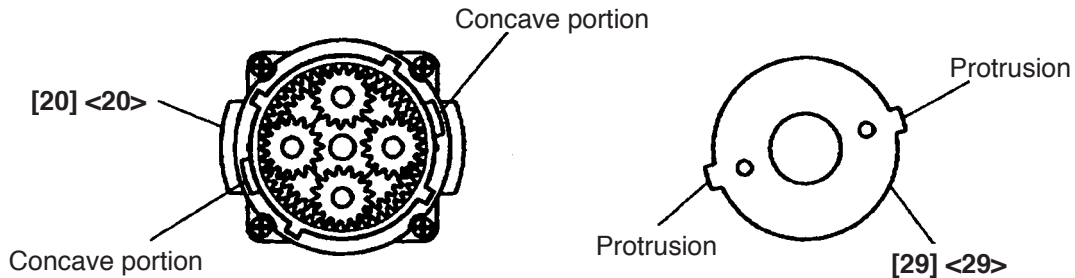

Fig. 12
- ⑥ Fit the protrusion of Washer (B) [29] <29> in the concave portion of the Rear Case [20] <20> and turn it clockwise viewing from the armature until it contacts the Rear Case [20] <20> (see Fig. 12).